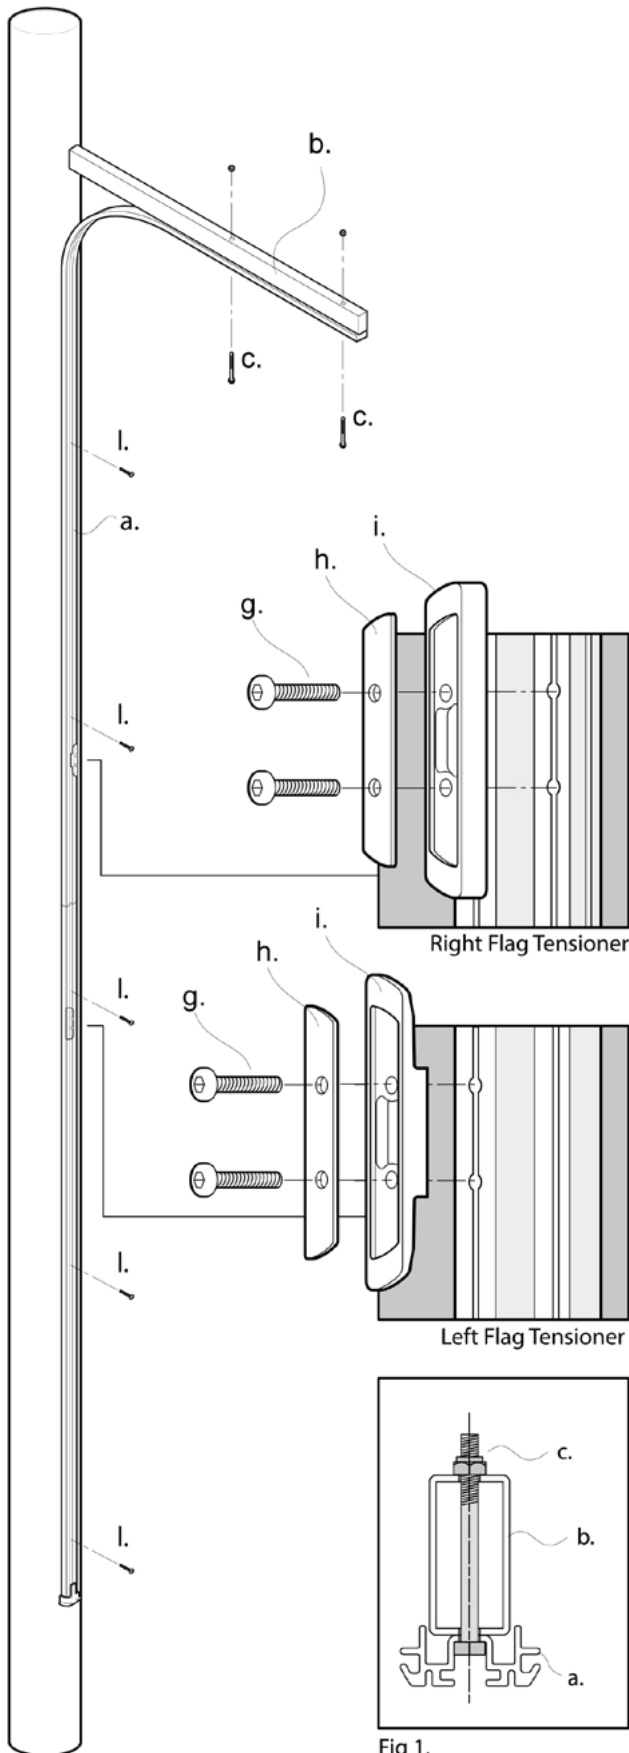

Fig 1.
3. Bolt the track to the support arm (b) using the supplied m6 x 65mm stainless steel bolts with the head of the bolt positioned into the aluminium track (c) and the bolt passing through the track and support arm. Secure and tighten with nylox nuts (fig 1).